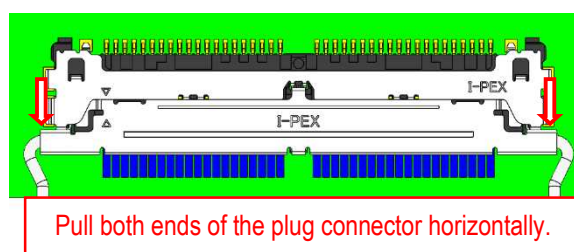

Fig.20
- ② When un-mating, pull both sides of the plug connector horizontally as shown in Fig.20.